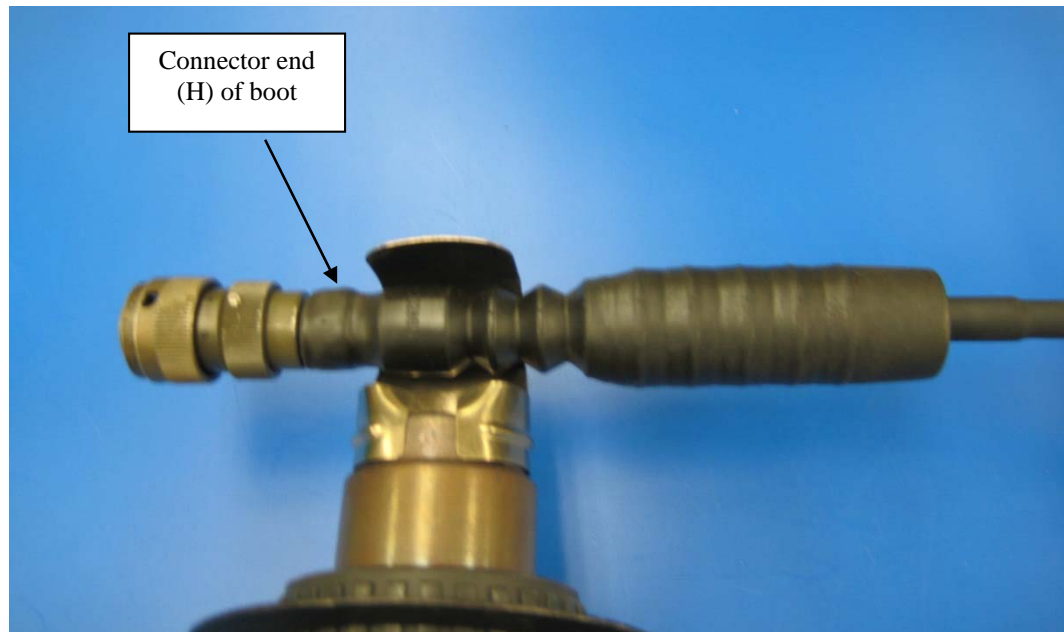

Figure 3-6
- Shrink the H end of the boot first to secure it onto the backshell adapter (Figure 3-6).